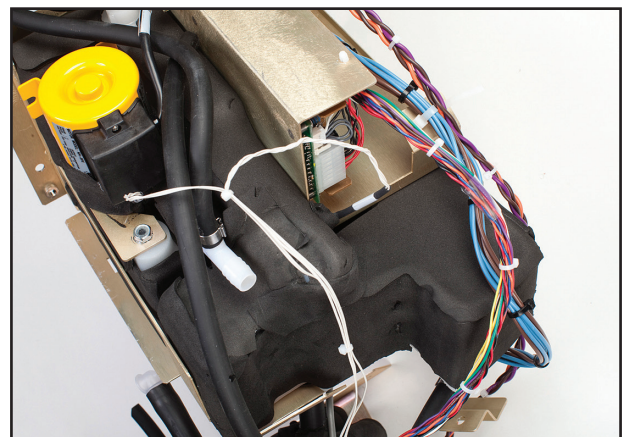

Fig. 8-58 Tank Temperature Sensor Harness in place.
7. Modify insulation as shown such that T4 fits properly into tank (see Figure 8-58)